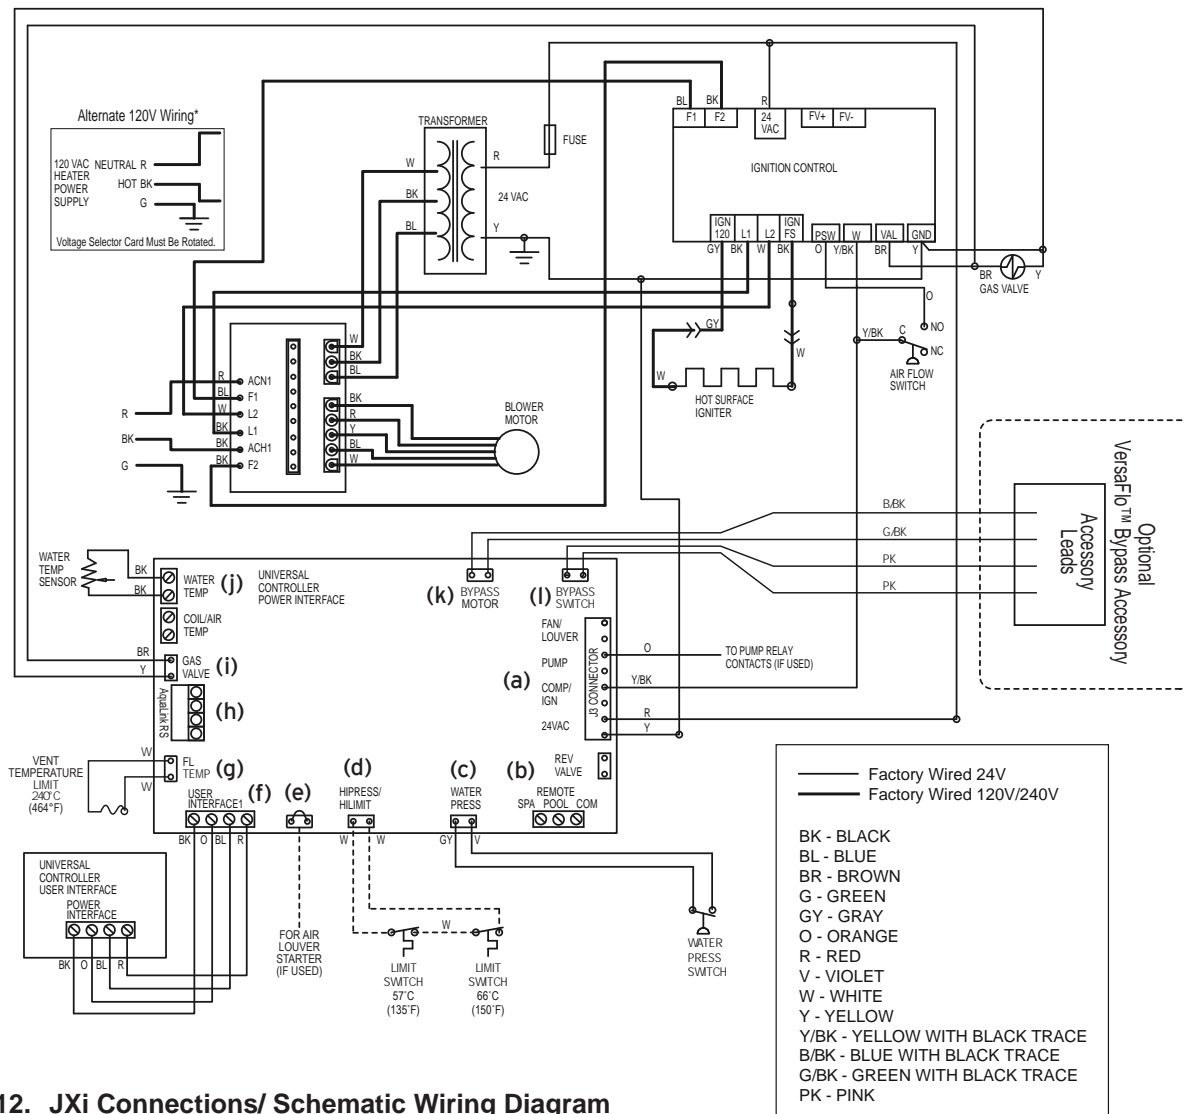

Figure 12. JXi Connections/ Schematic Wiring Diagram
**NOTE:** If the heater is converted to accept 120V, the "Hot" wire of the 120V power supply has to be connected to the black wire (ACH1) on the power distribution board and the "Neutral" wire of the 120V power supply has to be connected to the red wire (ACN1) of the power distribution board. Please see *Figure 12* for details.
Refer to *Figure 12* for a complete diagram of wiring connections and terminals.
- Connect the wiring from the pool/spa control system to the heater remote control terminal. See *Figure 12* item “b”.
- Connect the two wires to Pool and Common (not Spa) on the J6 terminal bar. See *Figure 12* item “b”.